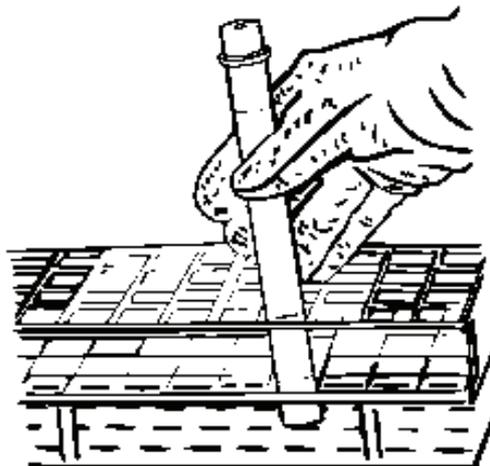
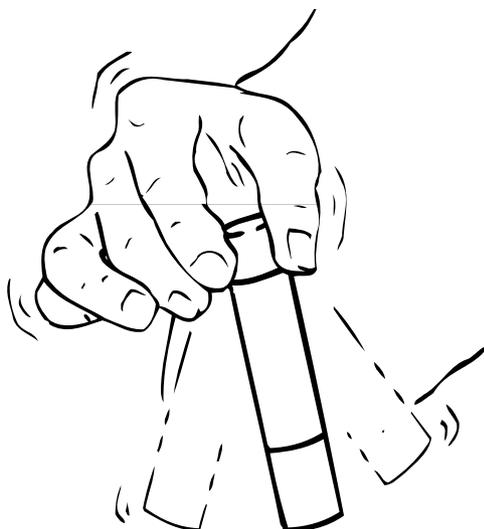

Figure 7 Placing the Collector Tube in the Rack
Figure 11 Shaking the Tube
11. Place each collector tub into the collector tube rack, with the **M** end up (Figure 7). It should take less than two minutes to pull and separate all 21 tubes. Parafilm the **D** end of the tube and allow the tubes to cool for at least 10 minutes.
15. Shake the tube with a gentle whipping motion to mix in diluent water (Figure 11). Do not invert it. With the **M** end down, place the tube into the collector tube rack (Figure 7 on page 27).